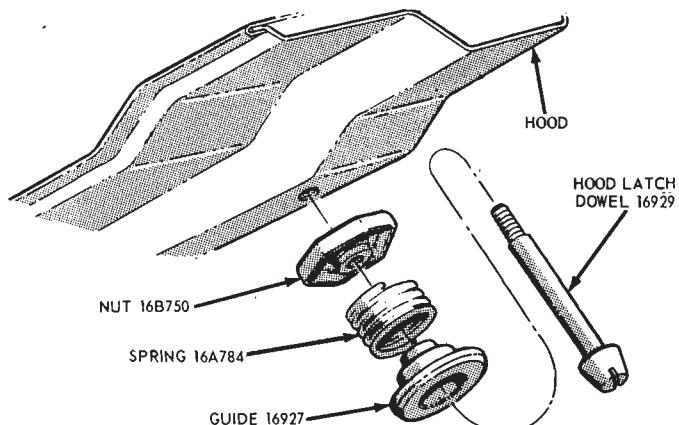

FIG. 4—Hood Latch Dowel
2. Loosen the lock nut on the hood latch dowel (Fig. 4), and turn the dowel clockwise to pull the hood tighter or counterclockwise to loosen it. The proper height is when the top of the hood is flush with the fenders.